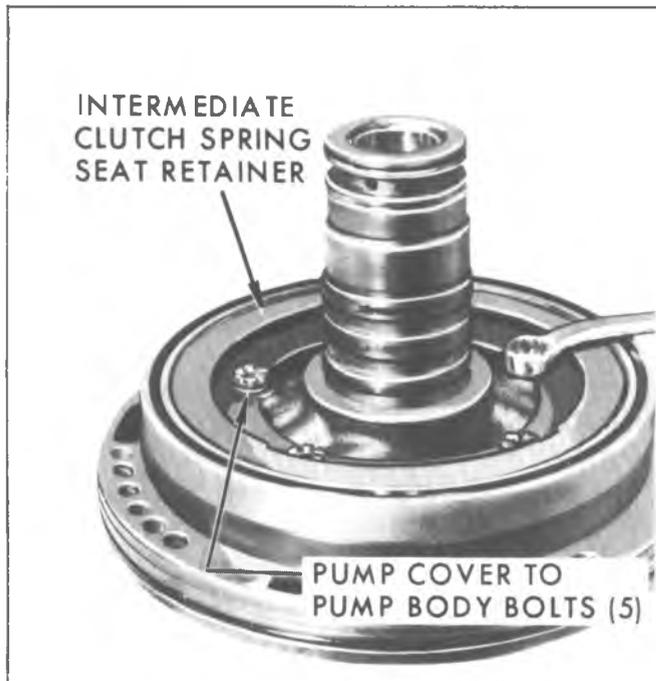

Fig. 7A-58B--Removing Pump Cover to Pump Body Bolts
2. Remove pump cover to body attaching bolts 5/16 x 18-1 1/2 (fig. 7A-58B).